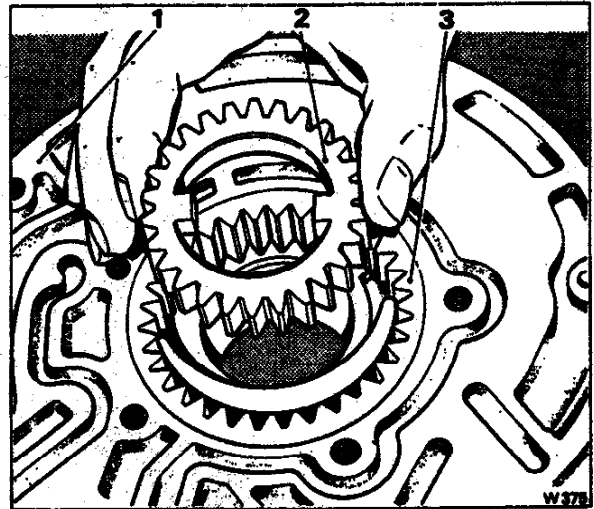

Fig. T82 Removing the pump gears
7. Remove the gears from the pump body as shown in Figure T82.
Fit the drive gear with the drive tangs uppermost (see Fig. T82).